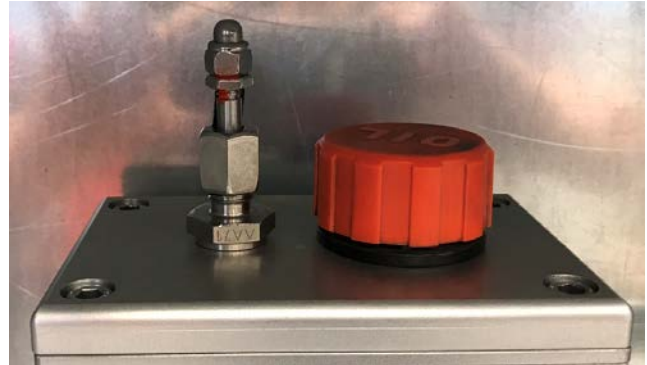

Fig. 2 Level indicator full
- 1.) Before commissioning, fill the **Ring Star** via the filling connection (3) with a lubricant approved for riding gap lubrication until the MAX grease level indicator (1) shows the status „full“ (see fig. 2).
- 3.) For firing, hold the **Ring Star** with both hands in a firm grip, aim at the flanks of the rotary kiln and start the firing process with the trigger (7) and repeat until all flanks have been correctly supplied with lubricant.